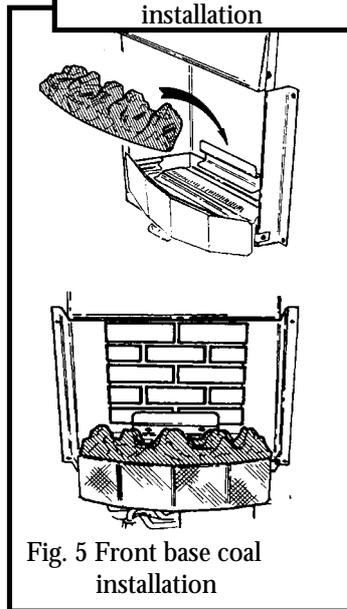

Fig. 5 Front base coal installation
**2** Place the front base coal in the burner compartment so that it rests on the ledges at the sides and front. Pull the coal forward so that it is immediately behind the front rim of the burner compartment. (See figure 5).